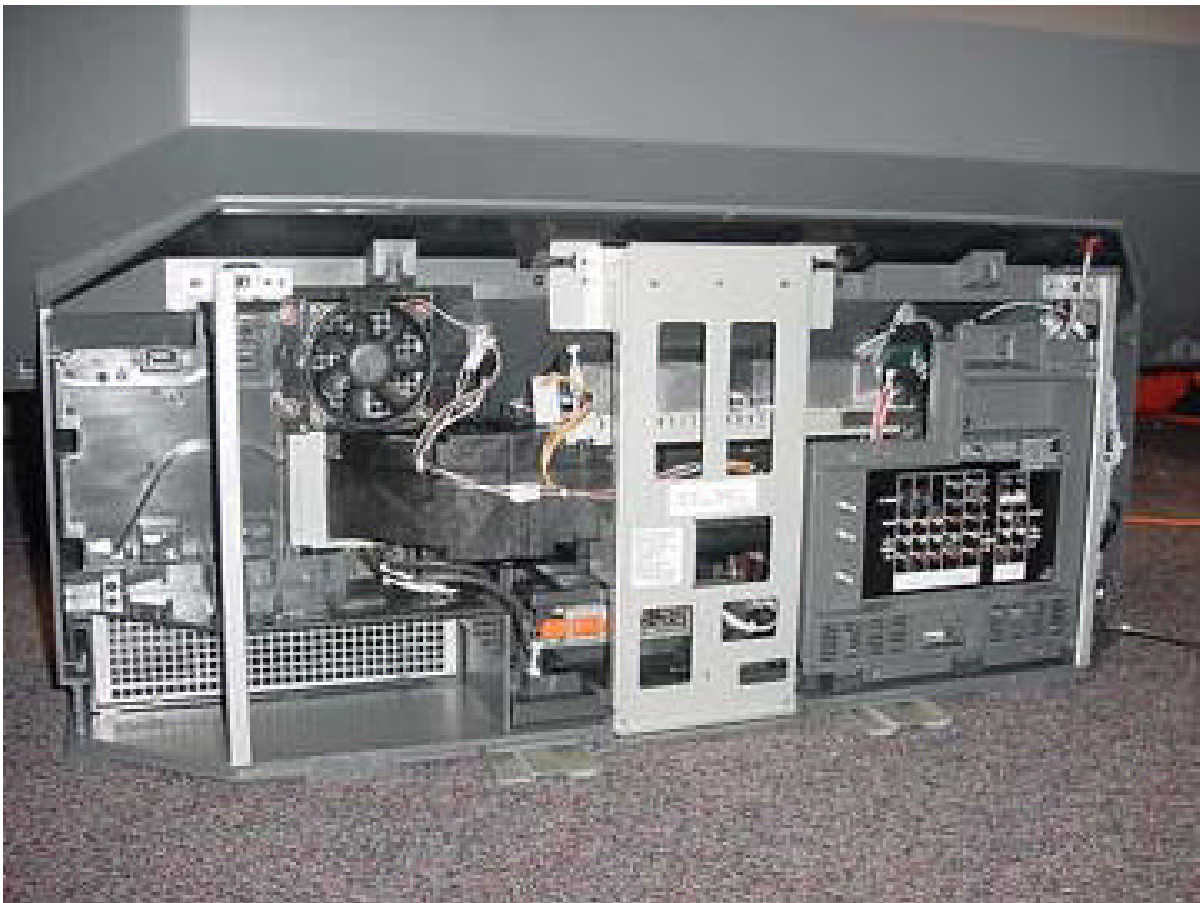

FIGURE 22-1 - THREE SUPPORT BRACKETS
- a) Remove the lower back panel and the three support brackets (Figure 22-1)